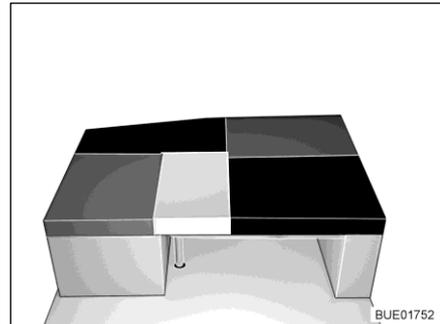

Fig. 163 After conversion
- Place the back cushion of the lateral seat/lateral bench on the table (between the seat cushion of the lateral seat/lateral bench and the additional cushion, see Fig. 163).